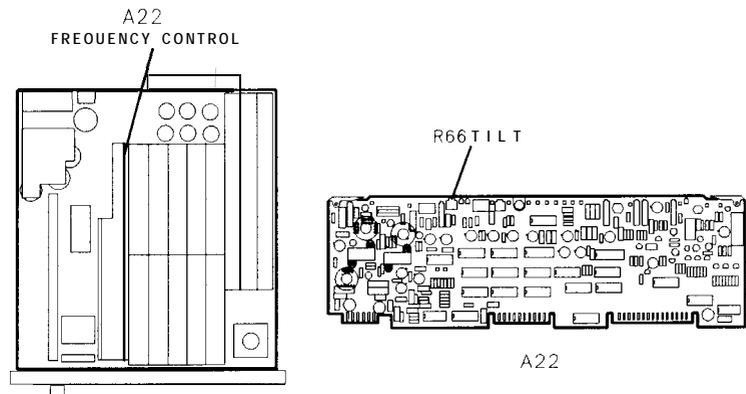

Figure 3-81. Location of A22R66 TILT Adjustment
- Adjust A22R66 TILT for best flatness (clockwise rotation increases the power slope), and trigger two sweeps on the synthesized sweeper. See Figure 3-81 for the location of A22R66. Compare the resultant trace with the specification. Continue adjusting A22R66 until best flatness is achieved.